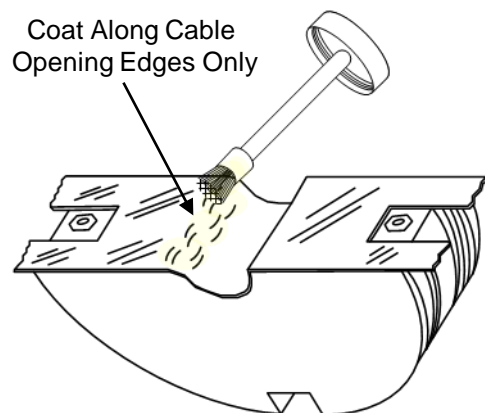

Figure 13
10.12 Paint a strip of C-Cement over LOCK-TAPE Sealant along edges of cable openings only. **See Fig. 13.**